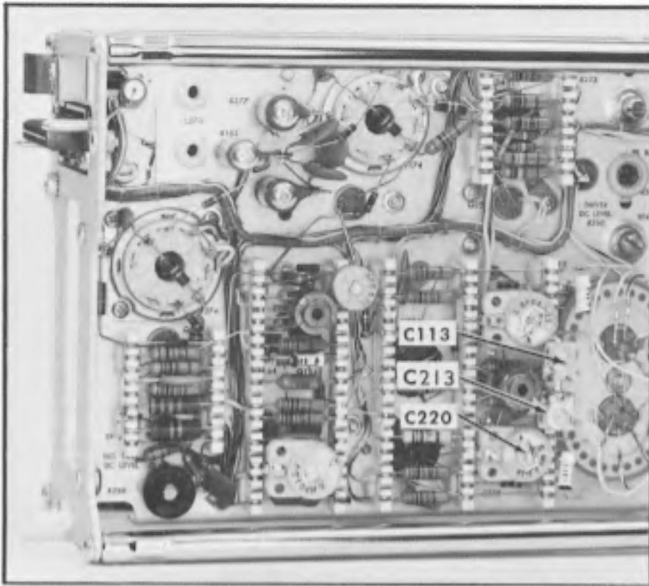

Fig. 5-28. Step 21h adjustment locations.
h. Check for a closed-loop horizontal display as shown in Fig. 5-27b. If the display is obtained, go to step 22. If the proper display is not obtained (see Fig. 5-27c), adjust C220 (Fig. 5-28) so the loop is horizontal and adjust C113 and C213 (Fig. 5-28) to close the loop. These adjustments interact so they must be adjusted a small amount at a time until the loop is closed and is horizontal. Check that the adjustments are set correctly when the left side panel is installed temporarily. If necessary, readjust C113, C213 and C220 to compensate for the change.